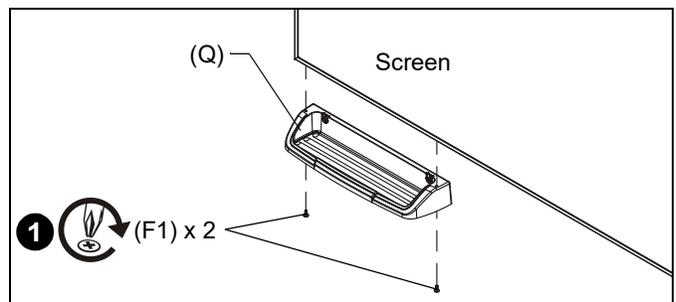

Figure 54
1. Attach marker tray (Q) at any point along bottom of screen using two #8 x 1/2" self-drilling screws (F1). (See Figure 54)